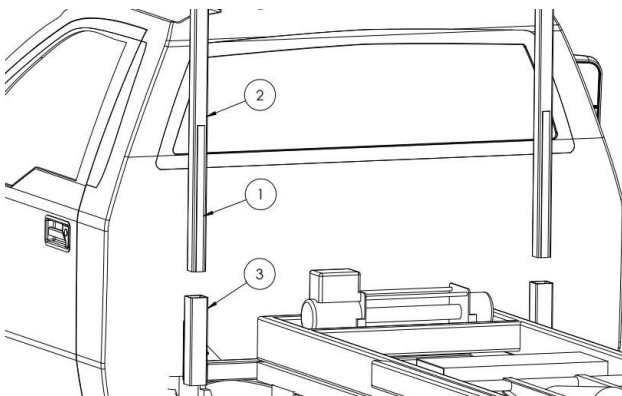

Figure 2.2
Once frame height is decided, insert legs (2) into base tube (3), making sure upper brackets on legs are facing front and back to cradle the housing assembly. (Figure 2.2 and 2.1)